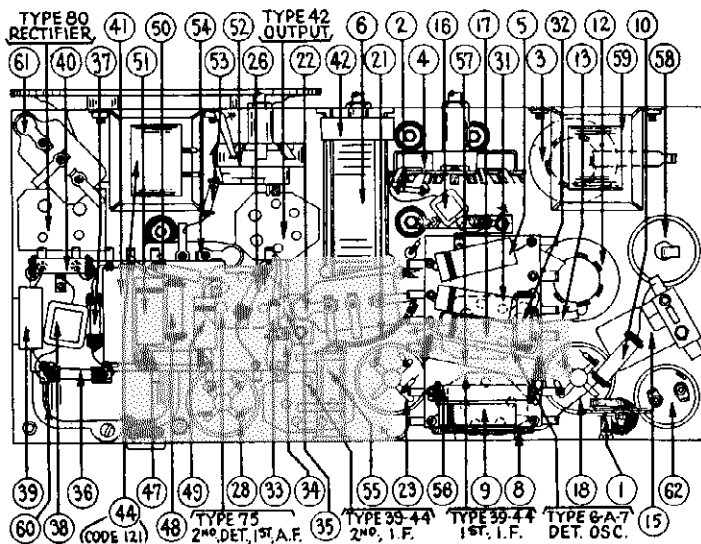

Fig. 4—Bottom View Showing Parts
ADJUSTMENT OF THE WAVE TRAP—Replace the grid clip upon the Detector-Oscillator tube (Type 6A7). Connect the output leads from the signal generator directly to the antenna and ground terminals of the receiver. Set the Wave-Band Switch of the receiver to the standard broadcast band (left hand position) and the Station Selector at the low frequency (540 K.C.) end. Adjust the Wave Trap condenser to give MINIMUM response to a 460 K.C. signal from the signal generator. The Wave Trap ① is located at rear and underneath the chassis, and is shown in Figure 4. It is reached from the rear of the chassis, by inserting the fibre wrench thru the hole near right-hand rear corner of chassis.
Finally set the signal generator at 600, tune in this signal and adjust the oscillator "L. F. condenser", located underneath chassis ⑩ in Fig. 4) to maximum reading. This adjustment is reached thru the hole in top of chassis, between the two electrolytic condensers (left hand end of chassis when facing rear).